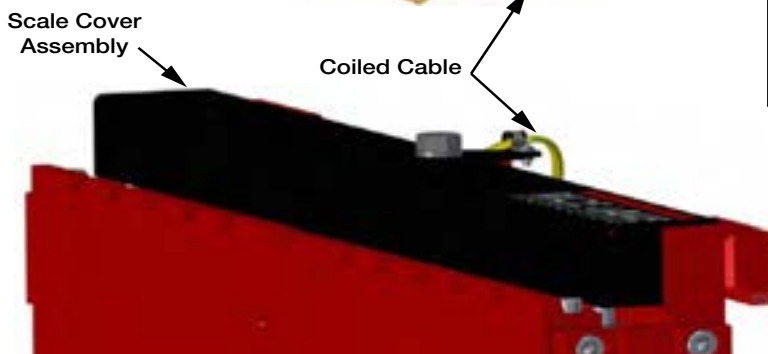

Figure 2-7. Connecting The Coiled Cable
1. Loosen the bolt holding the cover to the scale assembly and remove cover. See Figure 2-7.
4. Push the coiled interface cable through the hole in the scale and connect it to the j-box. See Figure 2-7.